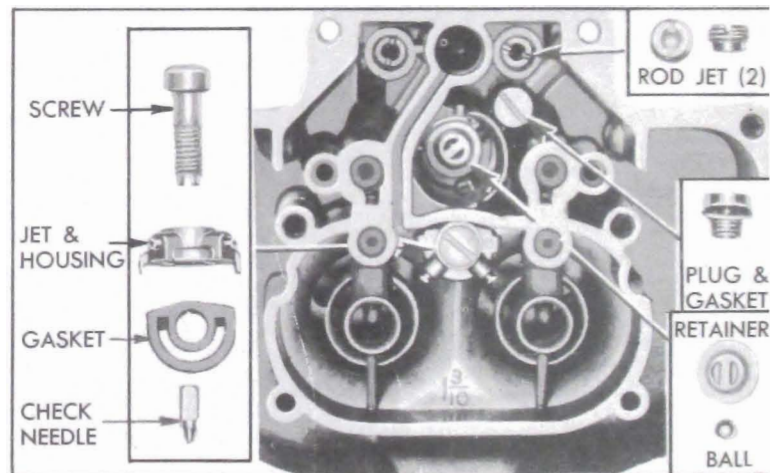

Figure 3-30—Parts in Main Body
10. Remove vacuum piston spring, pump plunger assembly and lower pump spring from cylinders in main body. See figure 3-30.
11. Remove screw, jet and housing assembly, gasket, and pump check needle from main body. See figure 3-30.
12. Remove both metering rod jets, and the pump passage plug and gasket from bottom of bowl in main body. See figure 3-30.
13. Use a thin screw driver or a stiff wire having a short hook on one end to remove the pump intake check ball retainer. See figure 3-30.
10. Install pump passage plug and gasket in bowl of main body and install both metering rod jets. Jets must be tightened firmly but not so tightly as to cause distortion. See figure 3-30.
11. Place pump check needle, *tapered end downward*, in passage in main body, then install gasket, pump jet and housing assembly, and attaching screw. See figure 3-30.